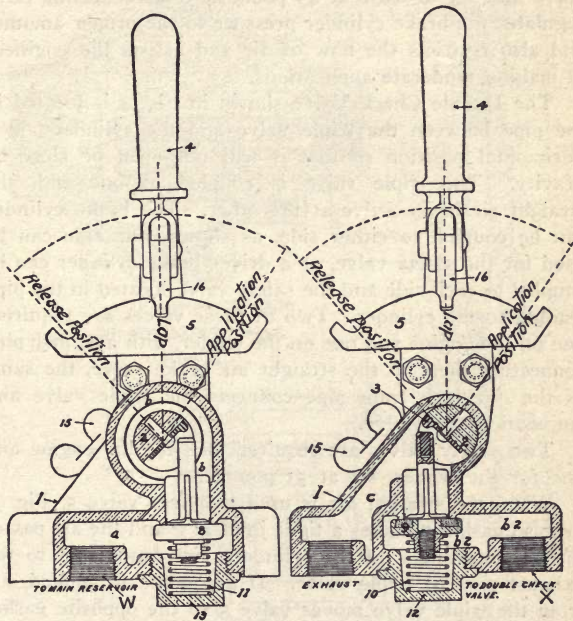

FIG. 1.
A. This brake valve contains two check valves, 8 and 9—see Figures 1 and 2—to admit air from the main reservoir to the brake cylinders and 9 to exhaust the air from the cylinders to the atmosphere. These valves are moved away from their seats alternately by the shaft 2, which when revolved to the right, forces valve 8 off its seat against the pressure of the main reservoir air in *a* and the spring 11; when revolved to the left forces the exhaust